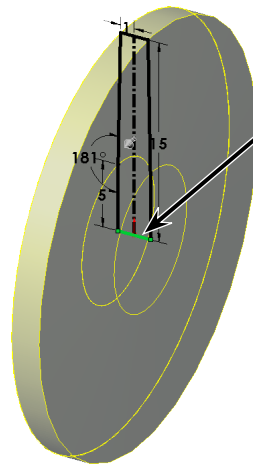

Fig. 8
Step 5. For the **Axis** , **Fig. 7**, click the **bottom line of the sketch**, **Fig. 8**. Click **OK** .